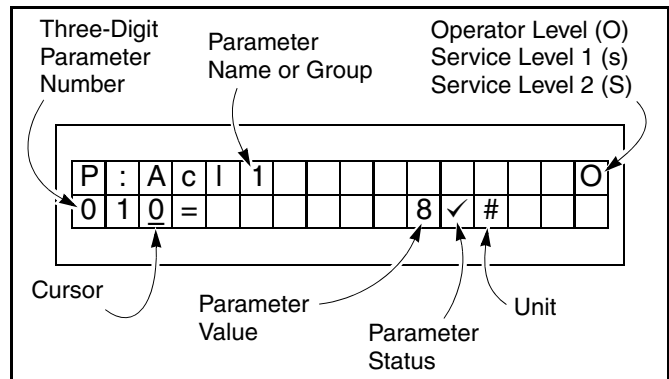

Figure 30
Figure 30 shows that auto-close delay timer ACL1 is currently set with an eight (8) second delay.